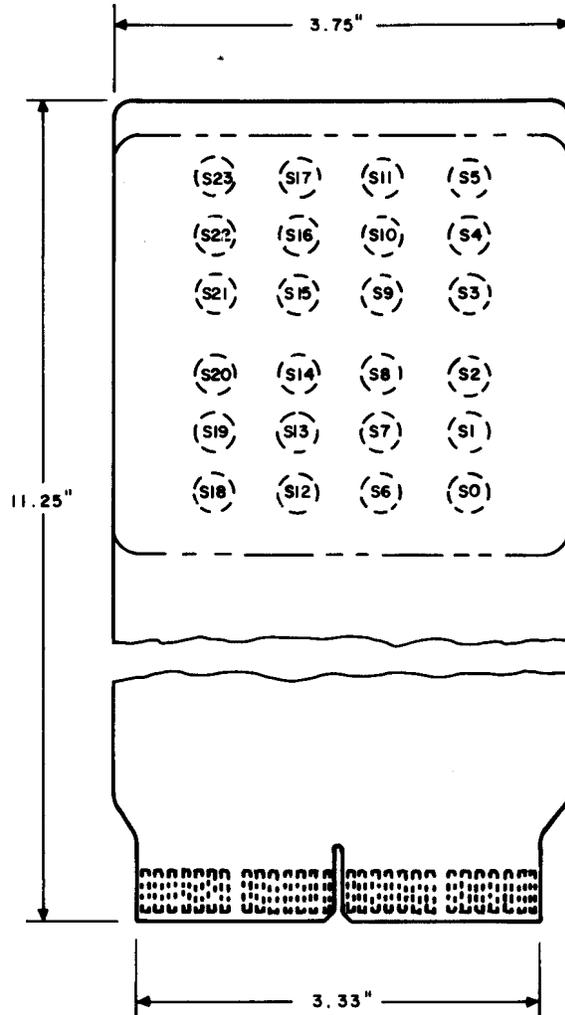

Fig. 2—786A Tester Tool
**2.07 786A:** The 786A tester tool (Fig. 2) is used in the 2-wire No. 1 ESS central control buffer bus location 23 (BB23). The tool has toggle switches which can be set to multibit codes indicating specific actions to be taken under program control.